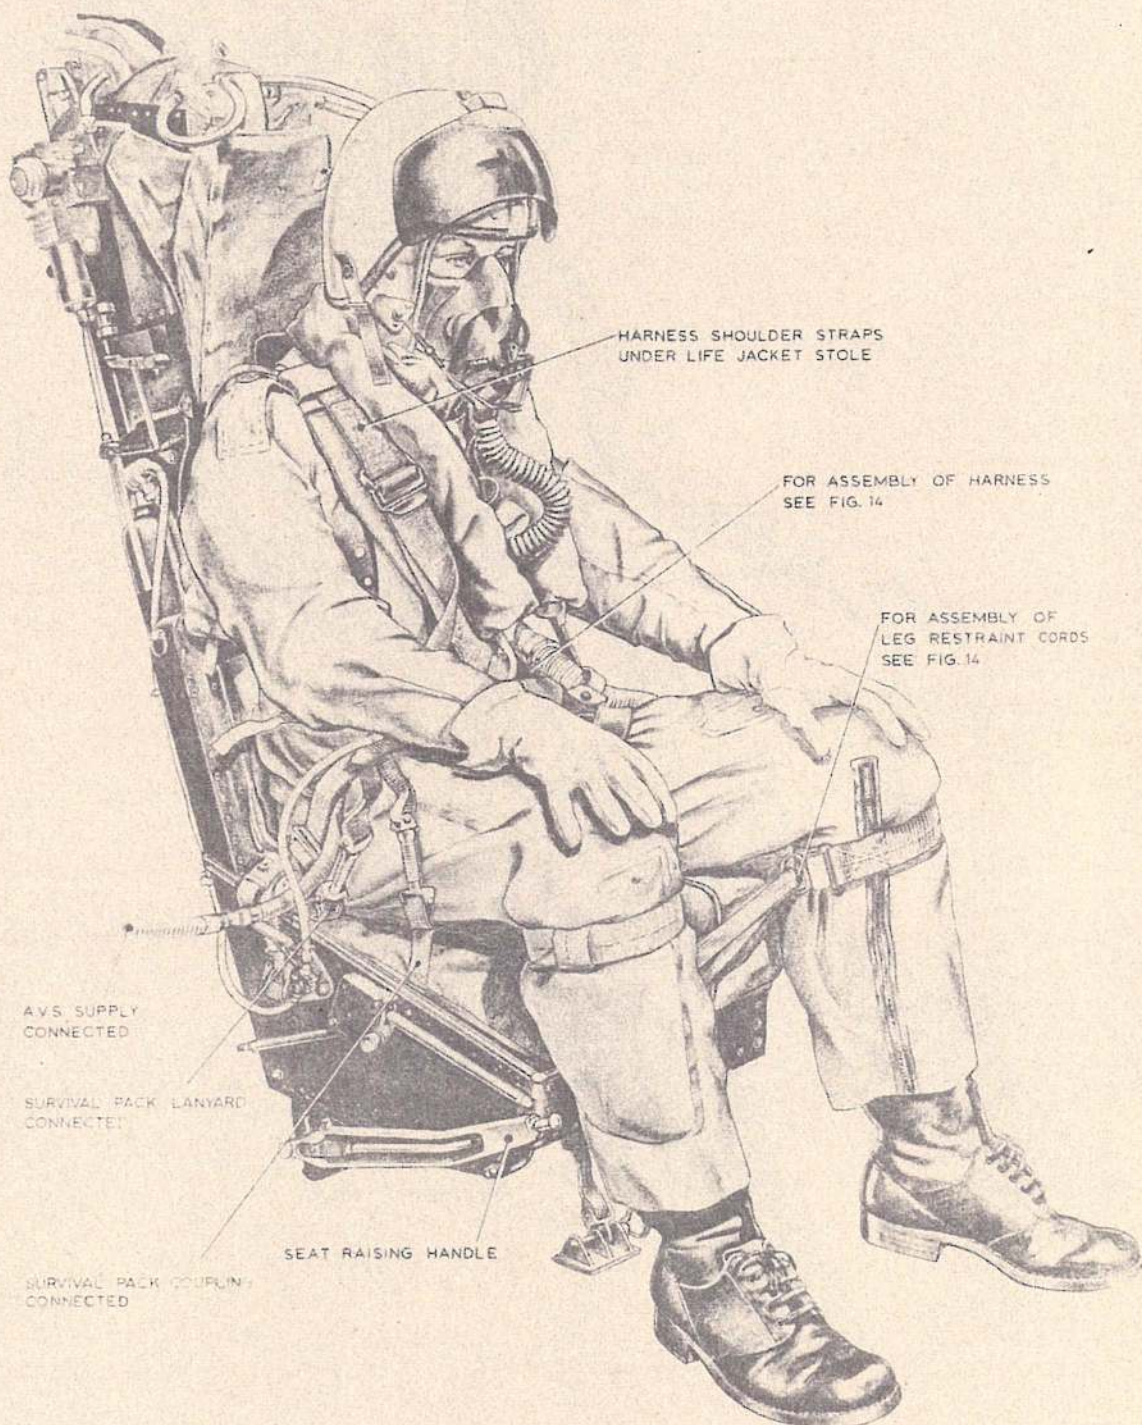
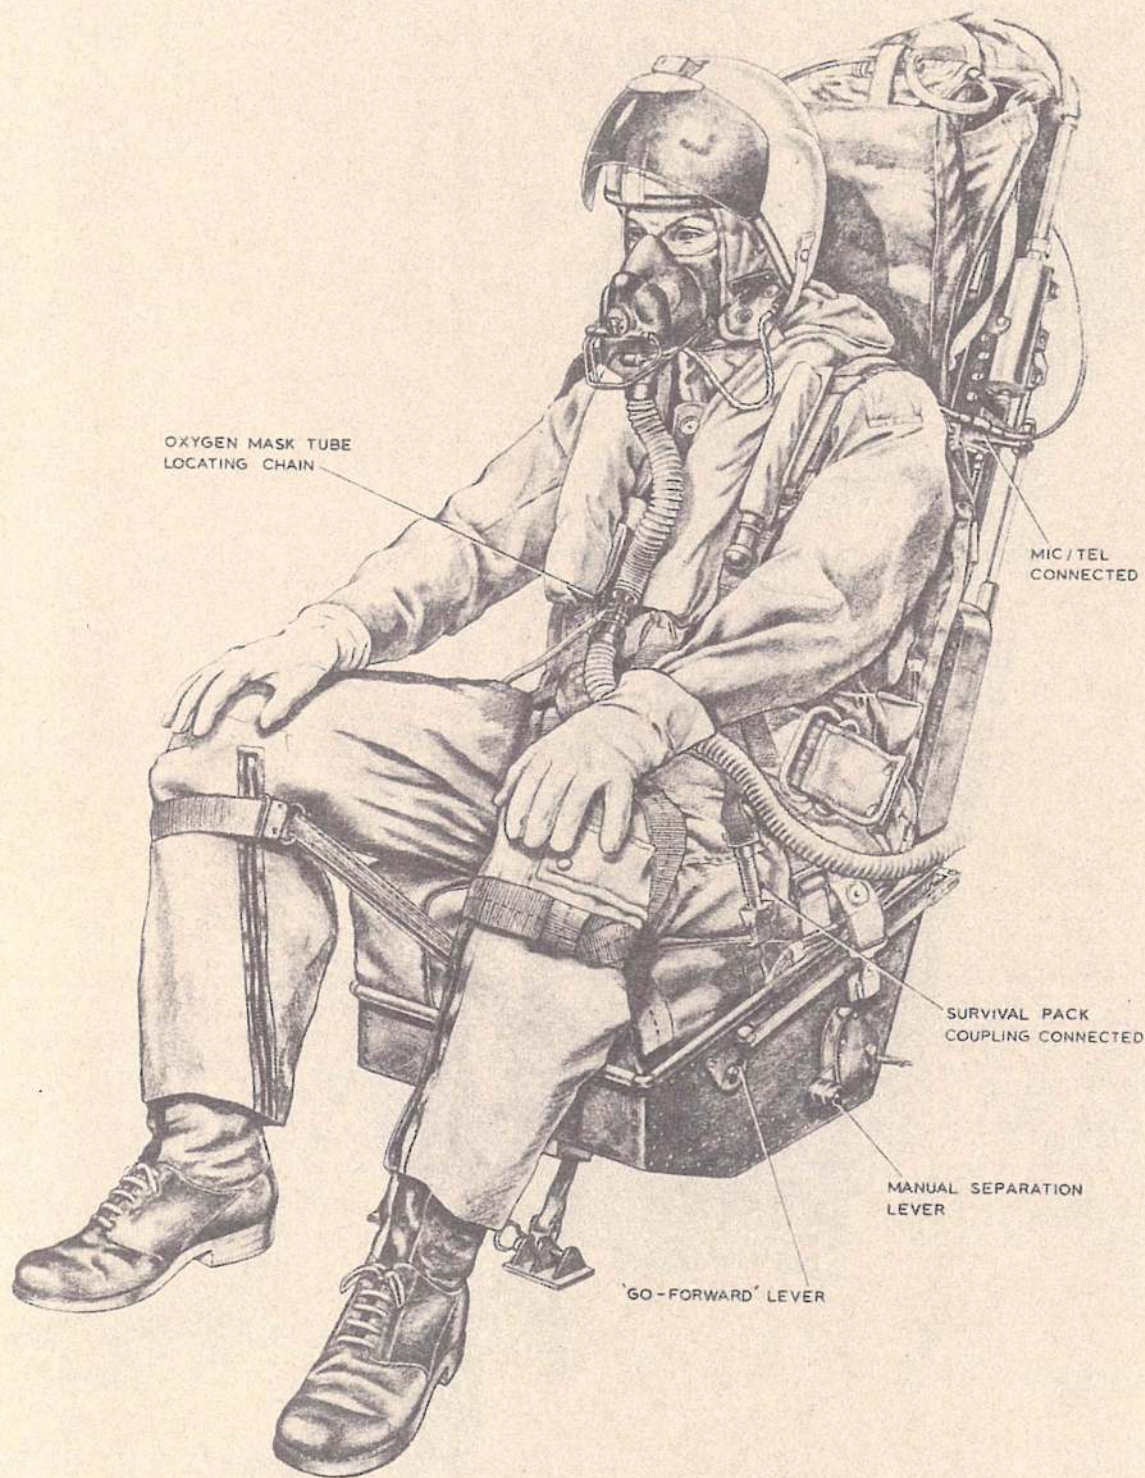

Fig. 15. The Mk. 3CT seats occupied (1)
Fig. 16. The Mk. 3CT seats occupied (2)
- to the oxygen mask tube. Connect the mask tube locating chain to the D-ring on the life jacket stole (fig. 16).
- (21) Connect the emergency oxygen upper tube assembly (right side) to the oxygen mask tube.
- (22) Connect the Mic/Tel lead and the A.V.S. supply hose (when an A.V.S. is worn) (fig. 15).
- (23) Reach upwards and check that the main firing handle is within reach; DO NOT PULL.
- (24) Fit the oxygen mask and conduct pre-flight oxygen checks.
- (25) With assistance from a ground crew member, if available, remove the main and alternative firing handle pins and stow (this operation is delayed until immediately before flight with all crew members fully strapped in).
- (26) Swing the instructor's seat forward and lock in the flight position.
- (27) The instructor straps in as described in operations (1) to (25).